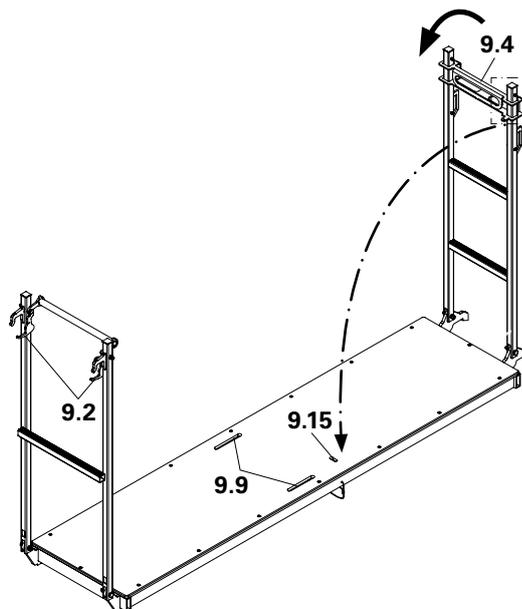

Fig. A1.31
Yellow bar with lug. (Fig. A1.31)
- Assembly Deck 200. (Fig. A1.31 + A1.32 + A1.33)